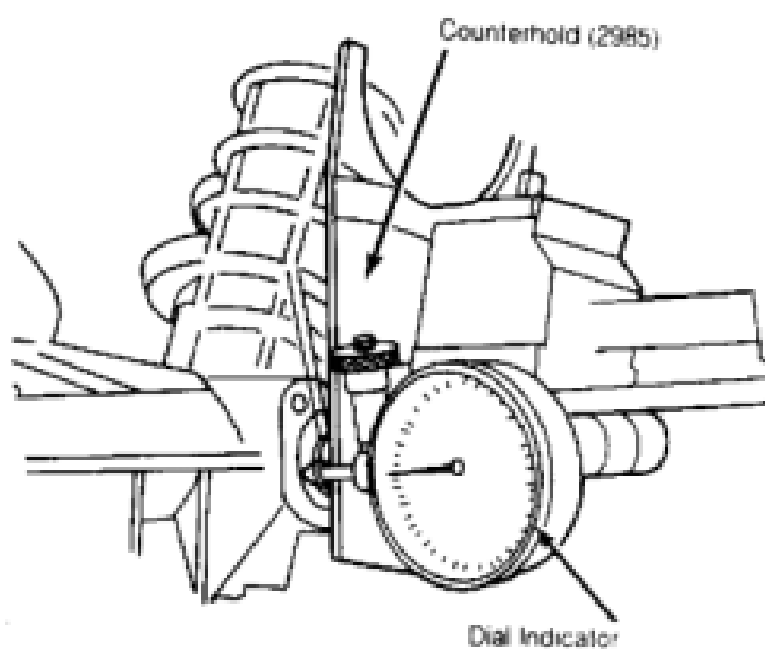

Fig. 12: Checking Rack Preload (740 & 760 Series ZF Steering Gear)
11) Install Counterhold (2985) on steering rack. See Fig. 12. Install dial indicator with stem on rack housing. Zero dial indicator.